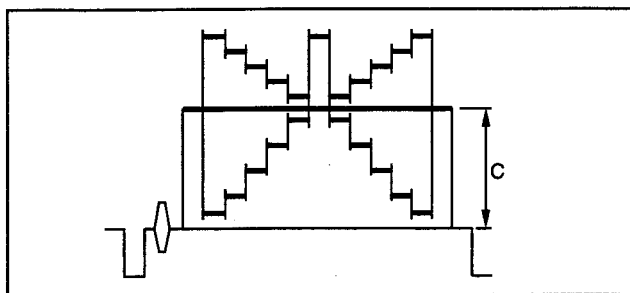

Fig.1
- (1) Open the lens iris, shoot the grayscale chart fully in the underscanned monitor frame.
- (2) Perform the white balance adjustment, adjust the lens iris so that the white level becomes 100 IRE (B = 100 IRE).
- (3) Select SERVICE menu "PAGE17", adjust the M.GAMMA item for the cross point C on the grayscale.
Change the M.GAMMA value on SERVICE menu "PAGE17" (Refer to section 4 Setting Menu). Higher adjustment values set higher gamma coefficient, that is, the level (C) of the gray scale become higher compared to at the standard setting value as shown in Fig.1.